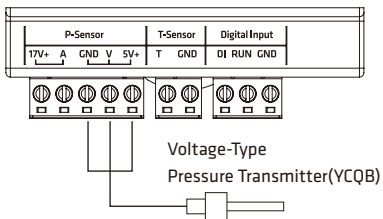

Figure3 Voltage-Type Pressure Transmitter
(3) For the wiring method of the voltage-type pressure transmitter, refer to Figure 3; for the current-type pressure transmitter, refer to Figure 4.